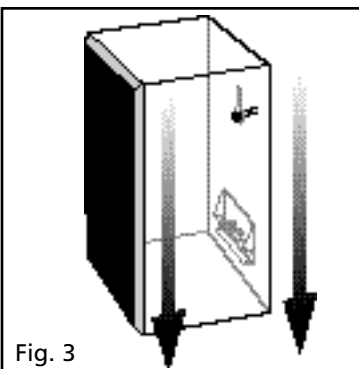

Fig. 3
- Let the speaker slide straight down, allowing the screw head to slip behind the smaller end of the keyhole slot [figure 3].